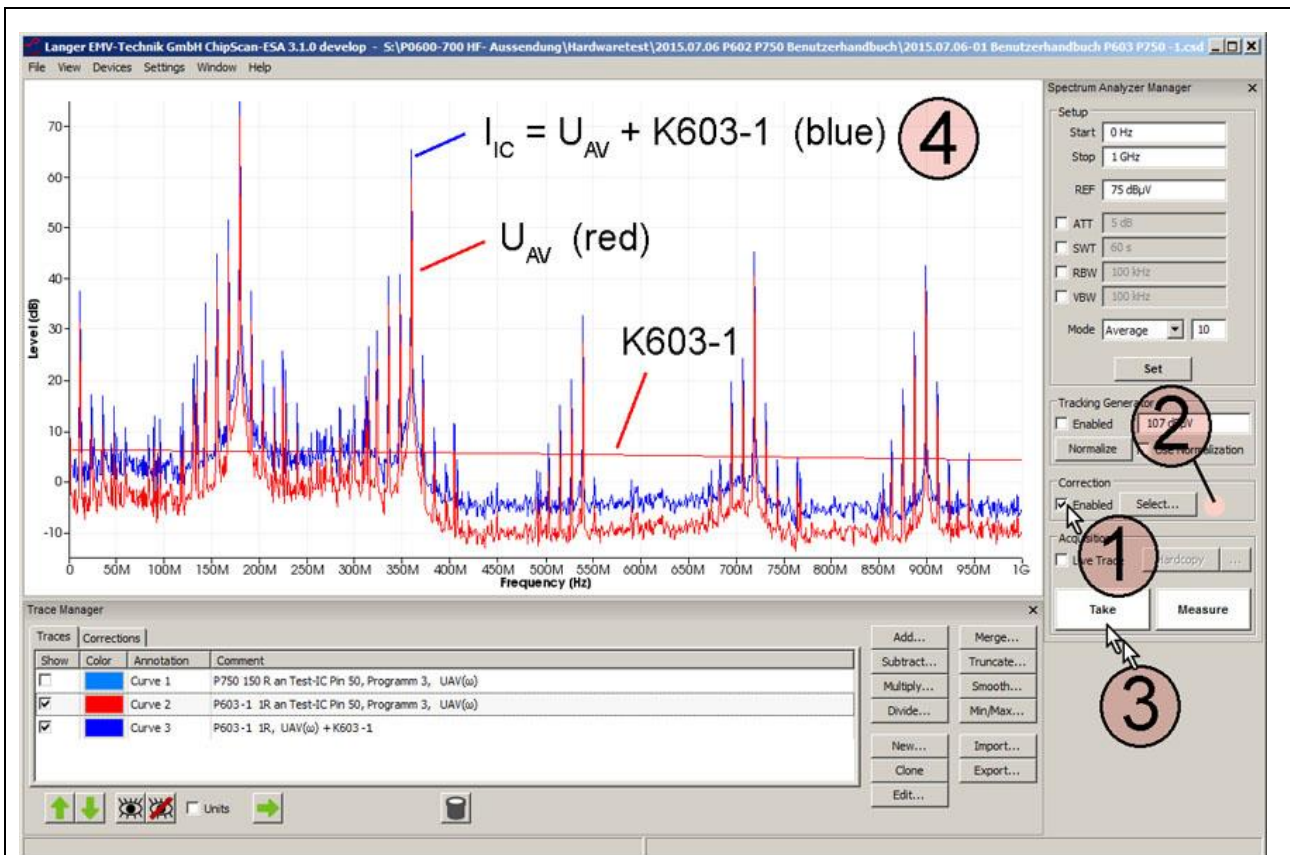

Figure 26 Measurement with the **P603-1** RF current probe head using the correction curve K603-1.
The correction curve K603-1 is loaded to the "Corrections Selector" if the **P603-1** probe is used for the measurement. Activate the "Enabled" box in the "Correction" field in the "Spectrum Analyzer Manager" with the mouse cursor ① (**Figure 26**). The field ② flashes if the correction is active **Figure 26**. Click "Take" or "Measure" (mouse cursor ③ **Figure 26**) to transfer the current measurement curve ④ $I_{IC}(\omega)$ from the spectrum analyzer to the PC. The calculation: $I_{IC}(\omega) = U_{AV}(\omega) + K603-1$ is automatically performed at the same time. The curve $I_{IC}(\omega)$ is added to the bottom of the "Traces" list in the "Trace Manager". A measurement log can be kept in the free text field under "Comment". Delete the check mark from the "Enabled" box if you only want to measure $U_{AV}(\omega)$; the field ② then stops flashing.